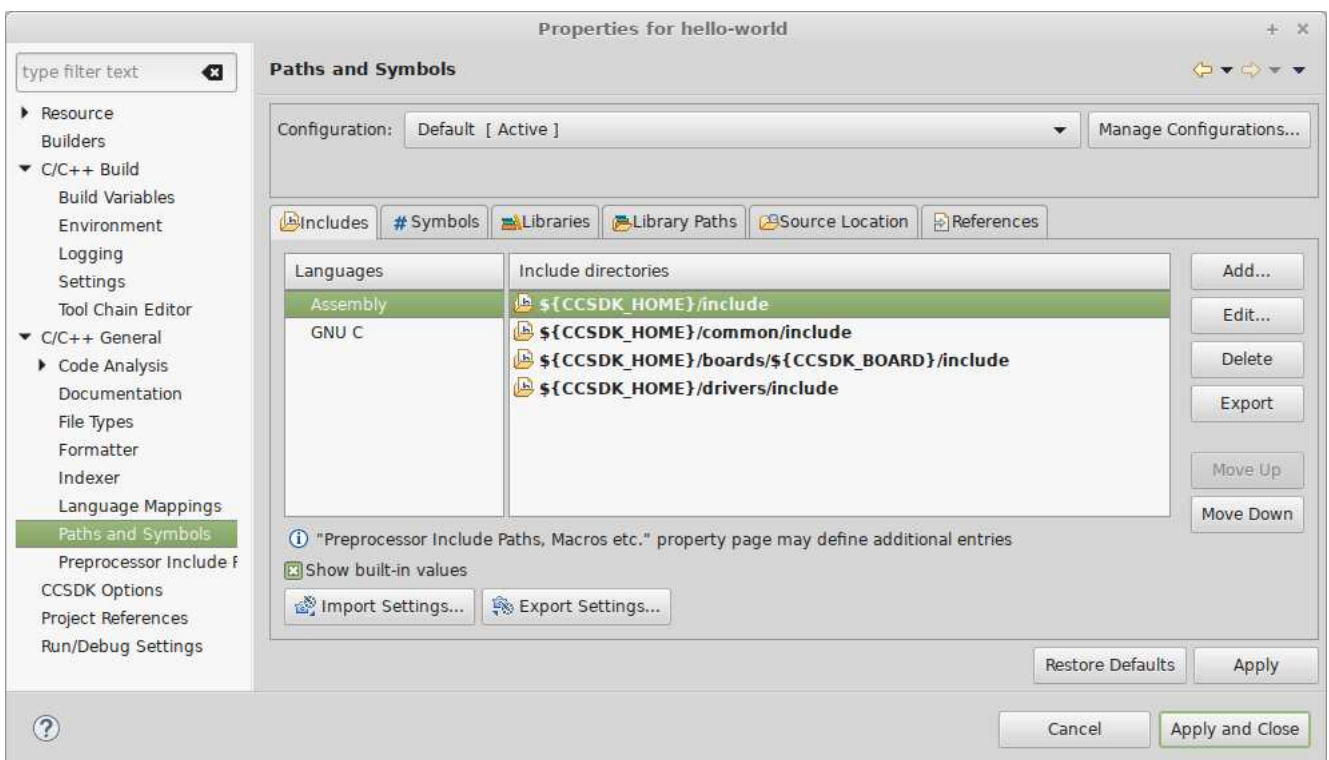

Figure 2.16. Include directories configuration.
**Includes** tab (figure 2.16) allows configuration of include paths. Paths are added independently for used programming languages (e.g. C, C++, Assembly). Environment and build variables can be used in path definition.